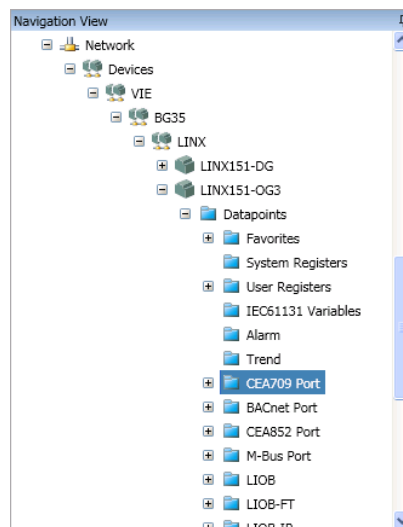

Figure 63: Device Data Points
5. The new device is displayed in the navigation view. If you have uploaded the device configuration or assigned a configuration, you now have access to all data points of the device (see Figure 63).